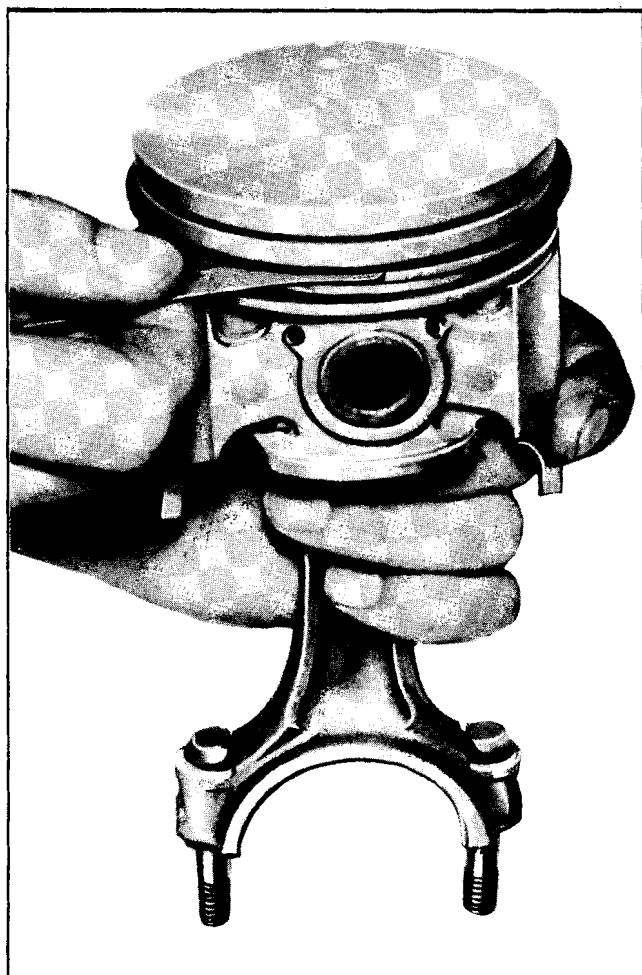

Fig. 6-68 Checking Side Clearance
5. Measure side clearance of rings in ring groove (Fig. 6-68) as each ring is installed. Clearance with new pistons and rings should be as follows: